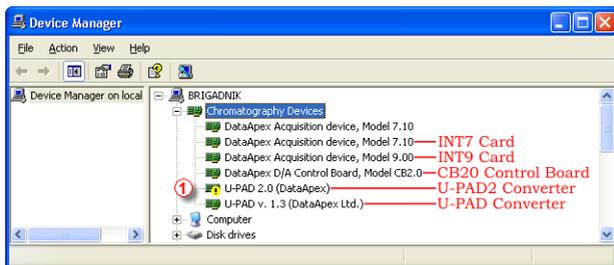

Fig. 20: Device Manager in Windows XP
- The driver is installed, but there is a yellow exclamation mark (⚠) in the Fig. 20 on pg. 23.) or a question mark over its icon, or it is not behaving as expected. The driver is probably installed incorrectly.